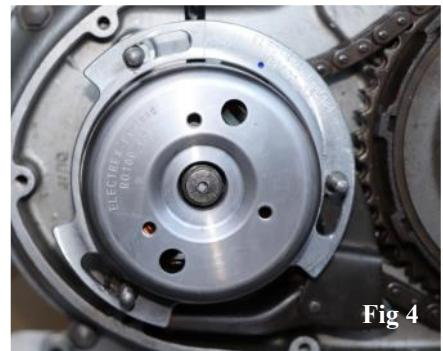

Fig 4
- Step 5** Remove the woodruff key from the crankshaft. Locate the taper locking collet on the crankshaft as far as possible and then fit the new rotor. Ensure the rotor is not touching the stator when turned by hand. If so it may be necessary to fit a spacer/washer on the crankshaft before the taper collet is fitted. The dished part of the rotor, where the fitting nut locates, should be level with the end of the crankshaft, see Fig. 4.